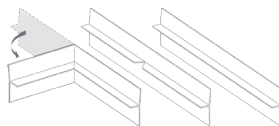

Fig 2.
2. Push the hexagon end of the threaded leg tubes into the mounting brackets on the tray and attach the remainder of the mounting brackets (as feet) using the centre threaded section. Adjust the screw in feet height to suit the panels (**Fig 2**).
6. Place the shower tray in position and level using the adjustable legs (**Fig 2**), ensuring that panel height is maintained. Fit the waste outlet and connect to the waste pipe directly or via the 'flexi waste pipe' supplied.
Fit the Versatile Seal Strip to the tray or bath and simply mitre the lip with two 45° cuts the bend to form corner or butt joint (Fig 2).
Apply a small bead of silicone on the internal mitred corner before tiling, this will ensure a waterproof seal as shown in (Fig 2).